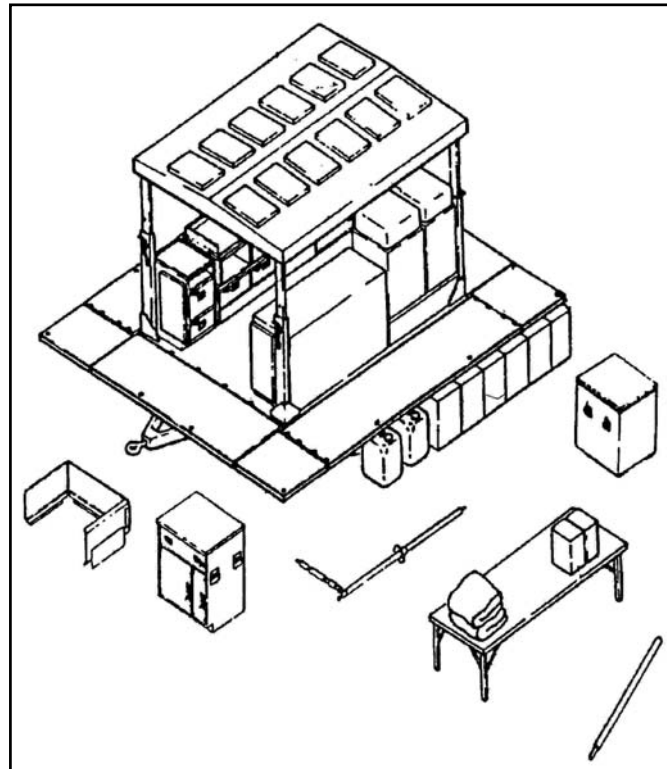

Figure 3-3. Taking Down Equipment
8. Direct soldiers to take down and arrange equipment (see Figure 3-3, page 3-6).